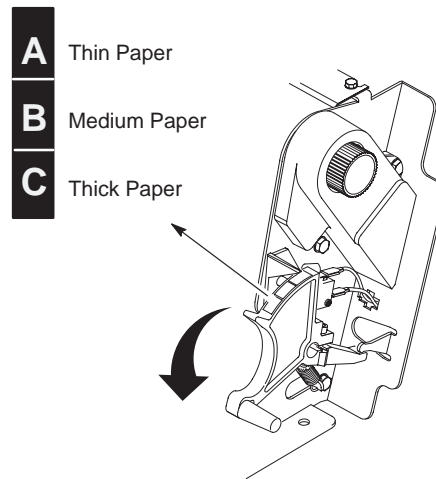

Figure 2–50. The Forms Thickness Scale
4. Lower the forms thickness lever. The CLOSE PLATEN fault clears automatically. Set it to match the paper thickness. If you are using single-part forms, set the forms thickness lever so that “A” is next to the indicator (refer to note on shuttle cover). See Figure 2–50.